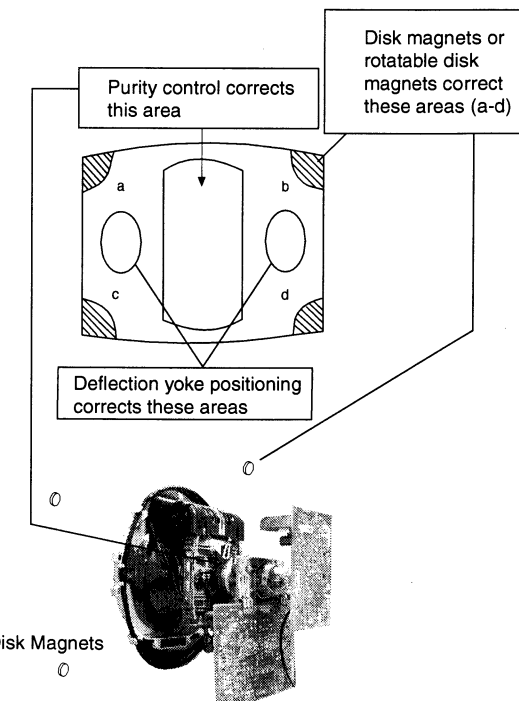

Fig.3-4
7. If the beam does not land correctly in all the corners, use a magnet to correct it. [See Fig.3-4]